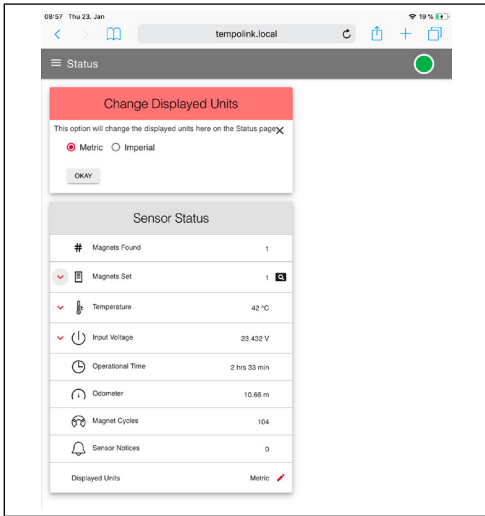

Fig. 22: Change displayed units
- **Displayed Units:** You can change the units of the displayed values from metric units to imperial units. To do this, click on the black pencil in this line. The "Change Display Units" window opens. Select the desired unit and confirm by clicking OK (Fig. 22).